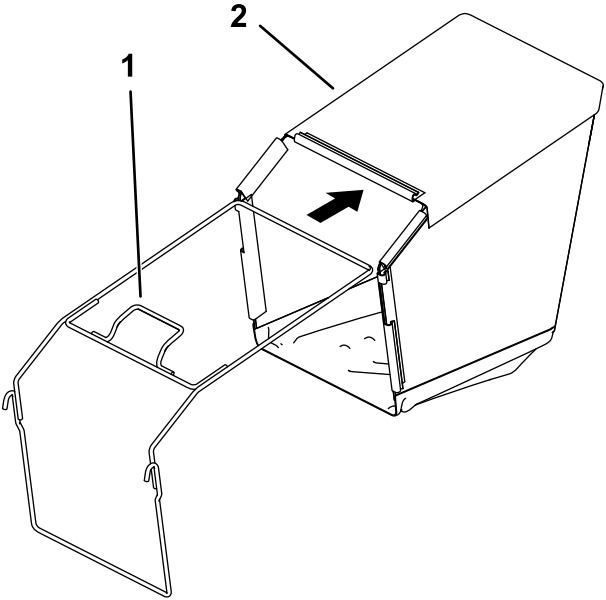

Figure 7
2. Insert the frame into the grass bag, keeping the handle above the grass bag (Figure 7).